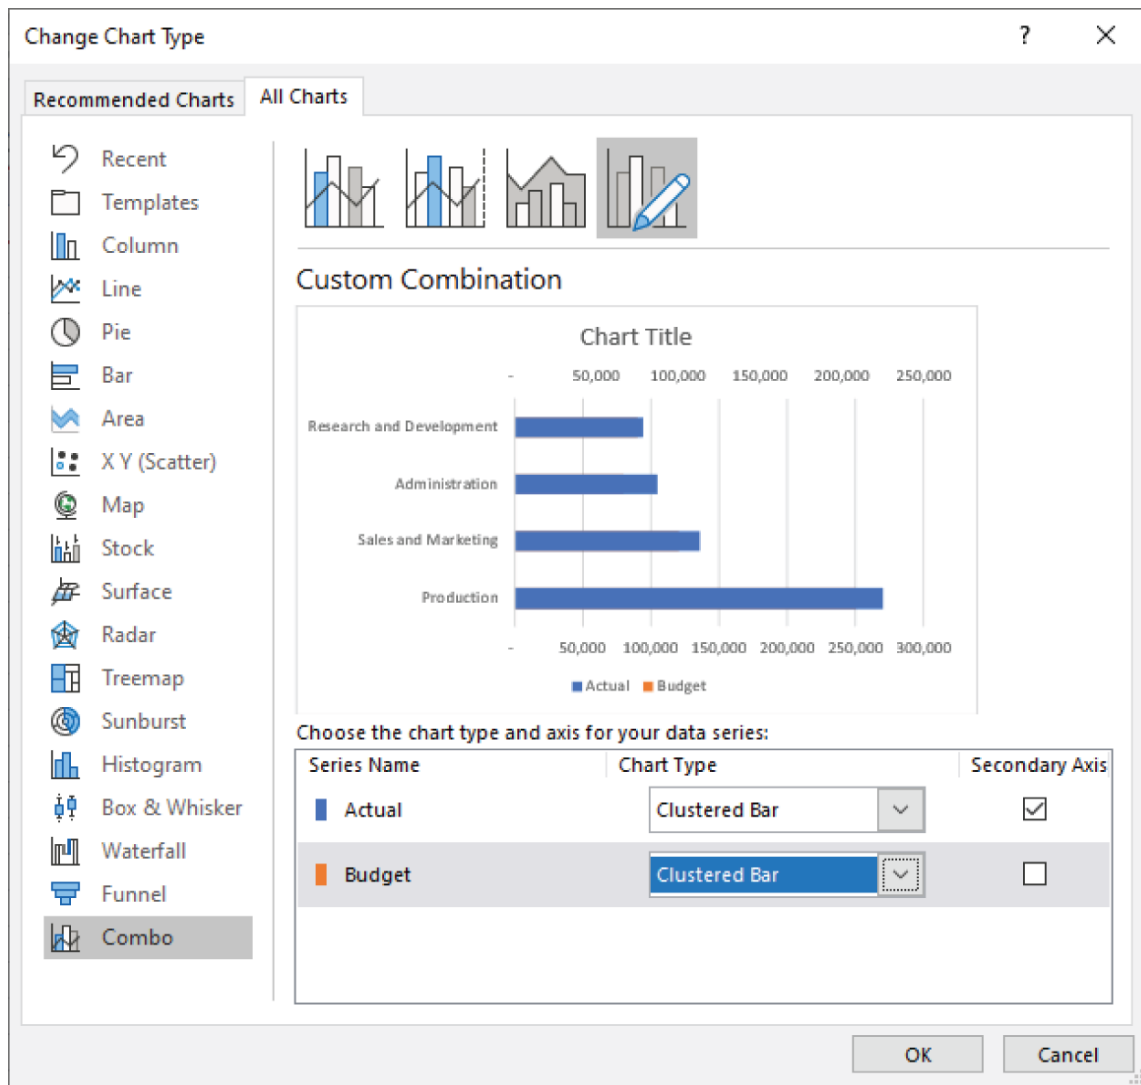

Figure 7.14: Changing the axis for one series
2. Right-click the Actual series and choose Change Series Chart Type. Put the Actual series on the secondary axis. Figure 7.14 shows the Change Chart Type dialog box.